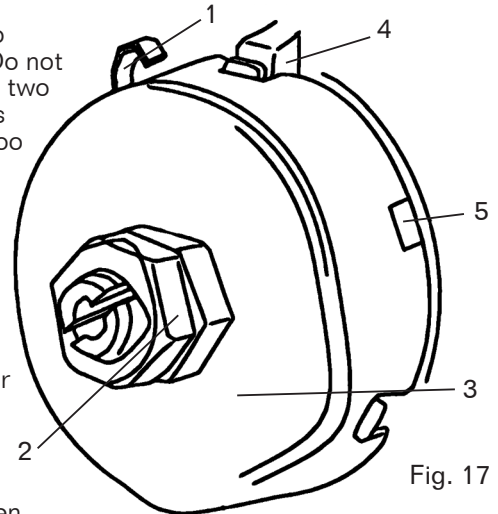

Fig. 17
## SPINDLE RETURN SPRING (FIG. 17)
2. Place a screwdriver into the loop (Fig. 17 - 1) to hold the spring in place.
3. Loosen the two housing nuts (Fig. 17 - 2) approximately 1/4" (6 mm). Do not remove the nuts from the threaded shaft. Do not allow the spring or spring housing to slip out of control.
4. While firmly holding the spring housing (Fig. 17 - 3), carefully pull spring housing out until it clears the raised stop (Fig. 17 - 4).
5. Turn the housing so that the next notch (Fig. 17 - 5) is engaged with the raised stop (Fig. 17 - 4).